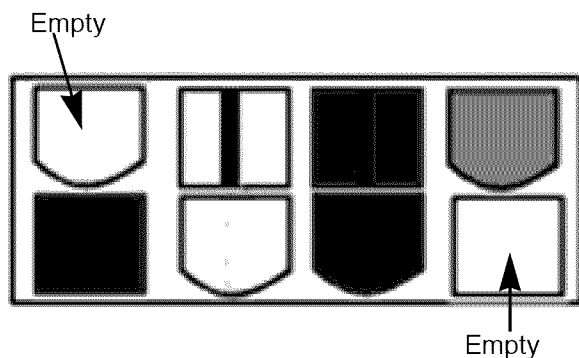

Figure 7.6
2. Looking at the plug head-on, it will be configured as shown in the diagram: There will be 8 female pin terminals. When probed they should yield the results described in the following sections. See Figure 7.6.